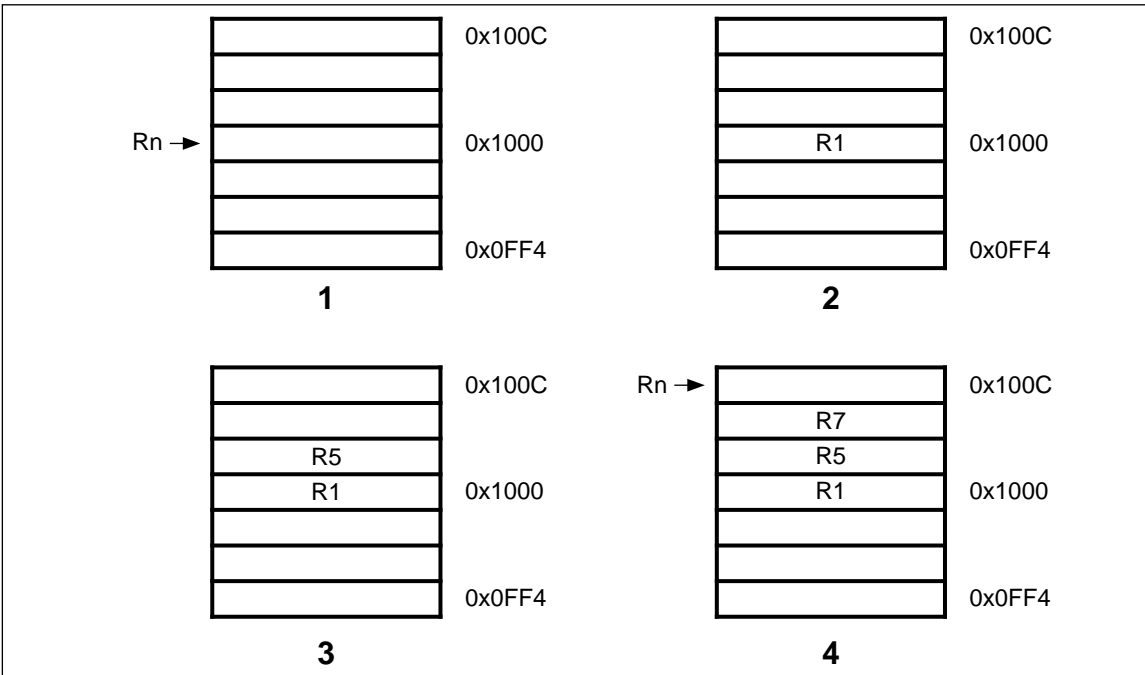
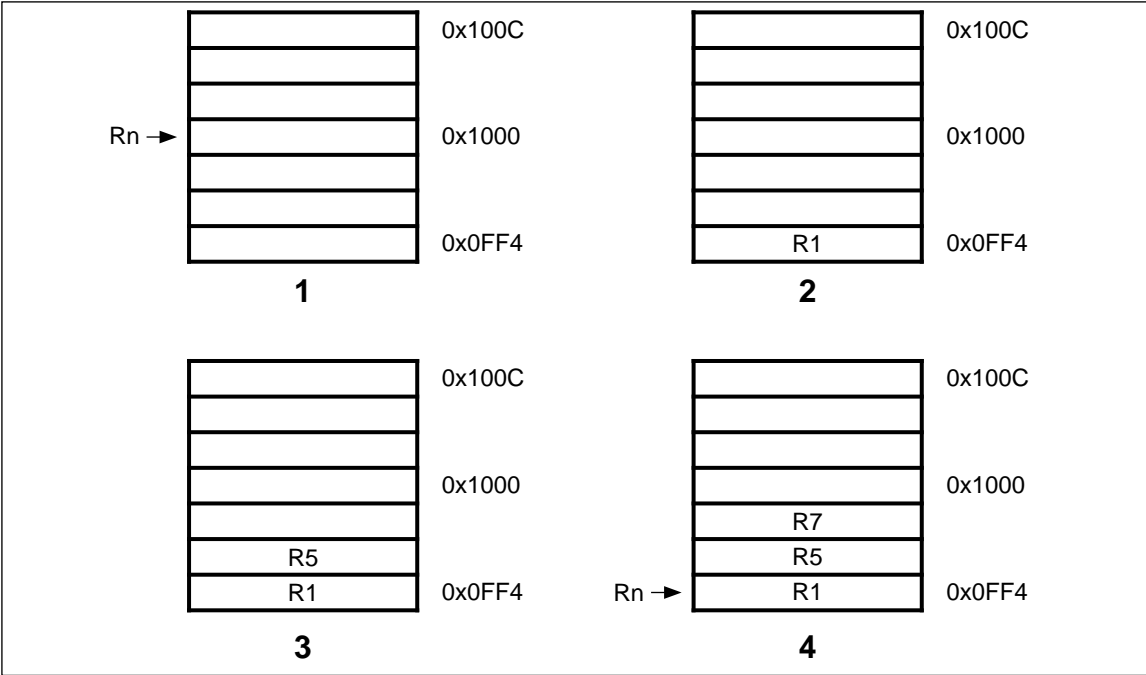

Figure 5-16: Post-increment addressing
Figure 5-19: Pre-decrement addressing
The transfer addresses are determined by the contents of the base register (Rn), the pre/post bit (P) and the up/down bit (U). The registers are transferred in the order lowest to highest, so R15 (if in the list) will always be transferred last. The lowest register also gets transferred to/from the lowest memory address. By way of illustration, consider the transfer of R1, R5 and R7 in the case where Rn=0x1000 and write back of the modified base is required (W=1). *Figure 5-16: Post-increment addressing* on page 5-28 to *Figure 5-19: Pre-decrement addressing* on page 5-30 show the sequence of register transfers, the addresses used, and the value of Rn after the instruction has completed.